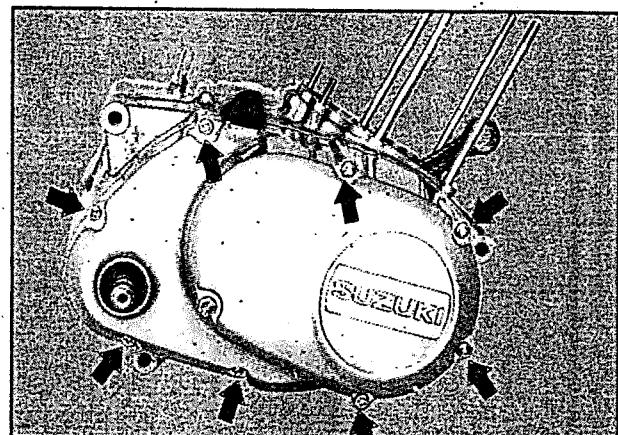

Fig 3.21
- Remove the clutch cover by unscrewing the screws (fig 3.21) (8 nos)